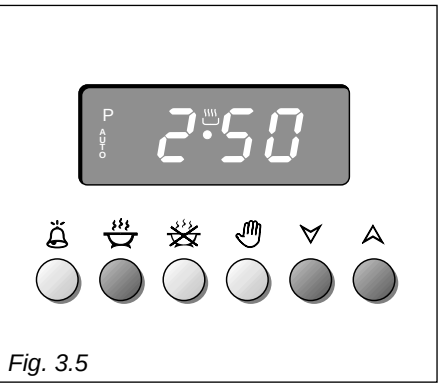

Fig. 3.5
- 1. Set the length of the cooking time by pushing the button and the button to advance, or to go back if you have passed the desired time (fig. 3.5). The **AUTO** and the symbol will be on.